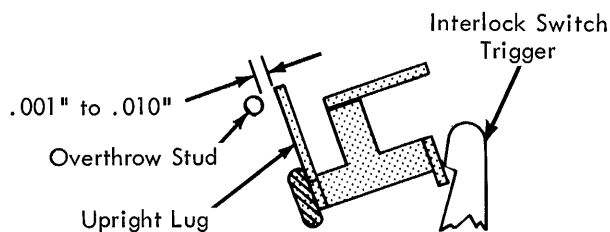

FIGURE 238. Torque Bar Overthrow Stud
12. Torque Bar Overthrow Stud (Fig. 238) - With the tab cam on its high point, form the upright lug on the LH end of the torque bar for a clearance of .001" - .010" between this lug and the overthrow stud.